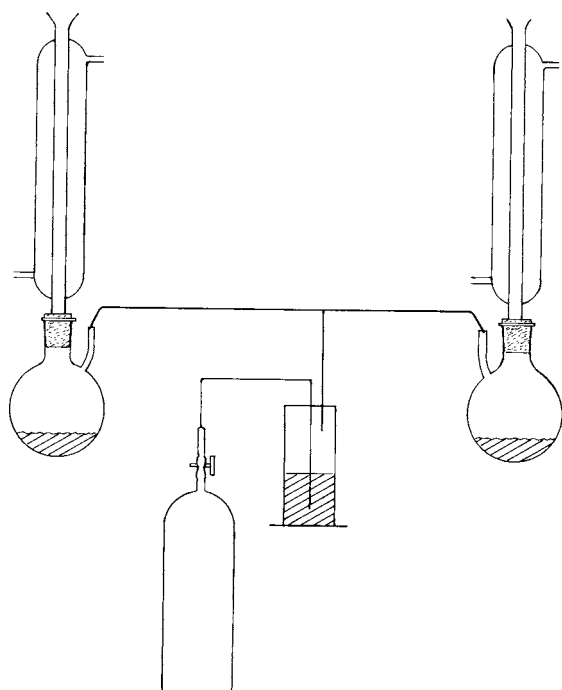

FIG. 1 Apparatus
6.1 Assemble the apparatus as shown in Fig. 1. Lubricate the ground-glass joints with a very thin film of lubricant. The dual apparatus is designed to permit a sample and a blank to be run simultaneously; however, it should not be necessary to make more than two blank determinations each day.